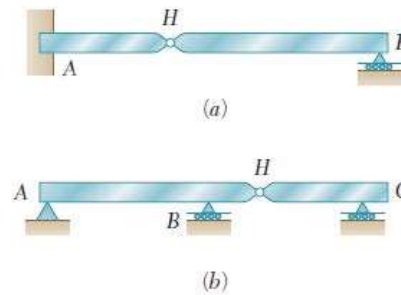

Figure 2.3: Beams Connected by Hinges
- Sometimes two or more beams are connected by hinges to form a single continuous structure. Two examples of beams hinged at a point H are shown in Figure 2.3.